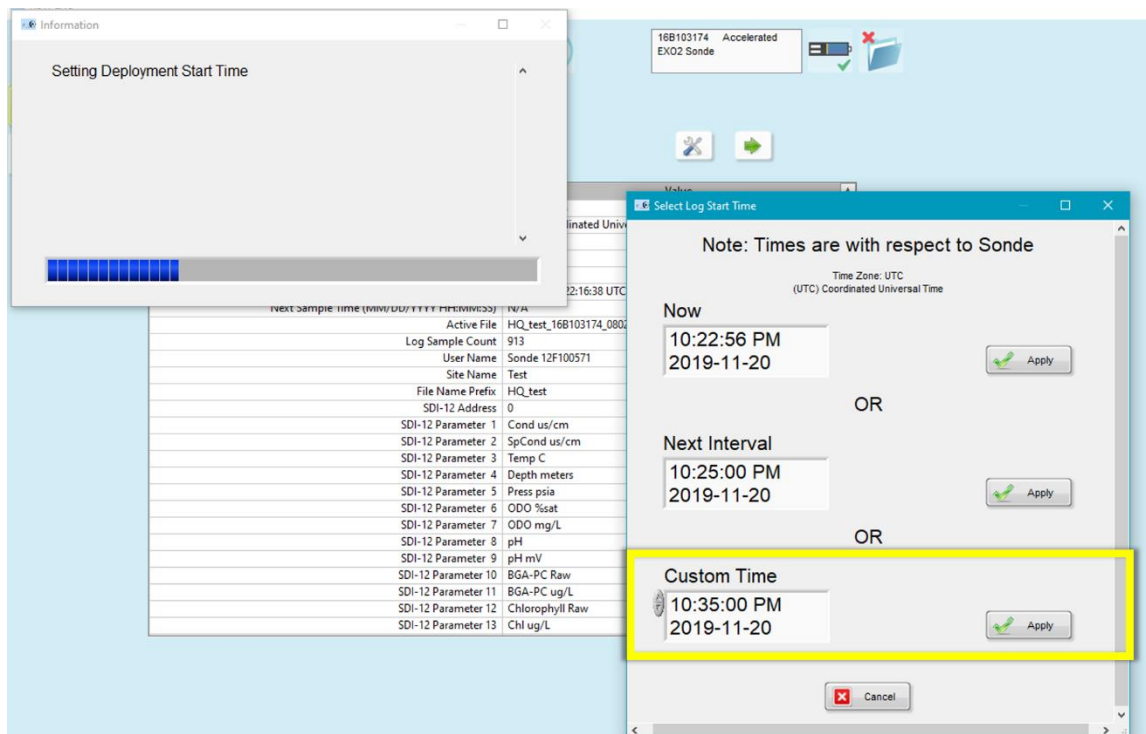

Figure 8. Select a Custom Time ~10 Minutes from the Current Time to Start on an Even 5 Minute Interval
- When the **Select Log Start Time** window appears, select a custom time approximately 10 minutes in the future from the current time (**Now**) to start data collection on an even five (5) minute interval and click “**Apply**” (**Figure 8**).